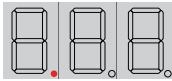

Fig. 1
- Standby Mode: When the device is in standby mode the red light beneath the temperature display will appear. (Figure 1)